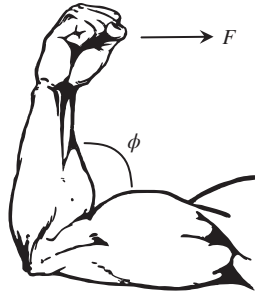

Figure P2.3 Force applied by bicep muscle.
- 2-3.** A bicep muscle shown in Fig. P2.3 can apply a force F measured in Newtons (N)